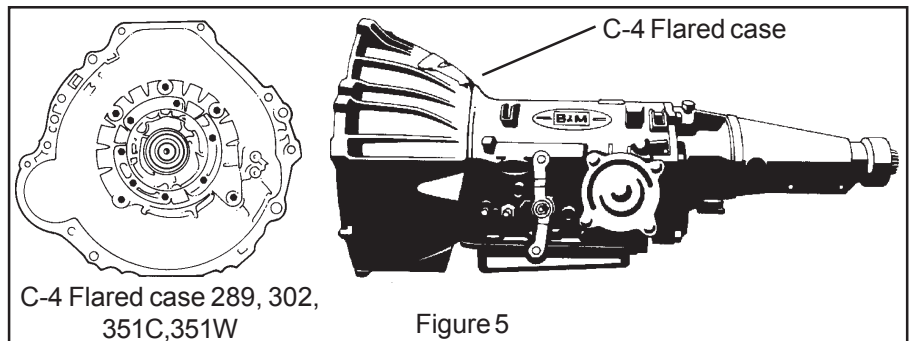

Figure 5
**Console Shift Models:** Remove cotter key or clip and disconnect shifter rod or cable from shift lever on transmission (see Fig. 5). Allow rod or cable to hang free. Cable shift units, remove two bolts holding cable cracket to pan and let cable and bracket hang free.
**1. Flared case:** The bellhousing bolts directly to the transmission case with 5 bolts and the oil pump bolts are separate. (See Fig. 5) The case flares out to meet the bellhousing.